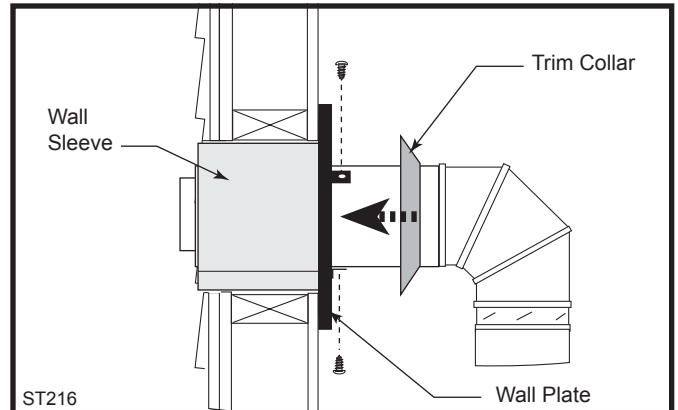

Fig. 26 Install the horizontal pipe and wall plate parts.
9. Seal the ends and connect the horizontal pipe to the elbow. Fasten the wall plate to the pipe with three sheet metal screws. Slide the trim collar up against the wall plate to cover the screws. (Fig. 26)